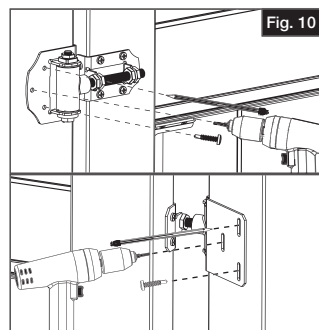

Fig. 10
- 8.** Hold the gate level to the post, pre-drill holes with $3/32$ " bit and secure with screws to the post (Fig. 10). Repeat for the bottom hinge. Install anti-sag bar (optional)